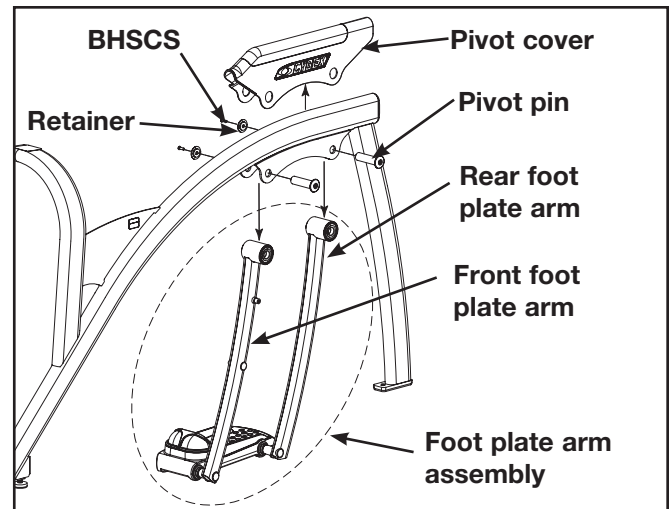

Figure 5
- B. Carefully remove the left front foot plate arm and tilt forward to lay on the floor. See Figure 5.
- B. Carefully remove the left foot plate arm assembly and set aside. See Figure 5.
- A. Remove left pivot cover and set aside. See Figure 5.
- A. Place pivot cover on frame. See Figure 5
- B. Insert pivot pin (removed in step 8A). See Figure 5.
- D. Install BHSCS and retainer (removed in step 8A) and tighten using two 7/32" Allen wrenches. See Figure 5.
- F. Insert pivot pin (removed in step 7A). See Figure 5.
A. Repeat steps 7-9. See Figure 5.
A. Repeat steps 10 and 11. See Figure 5.